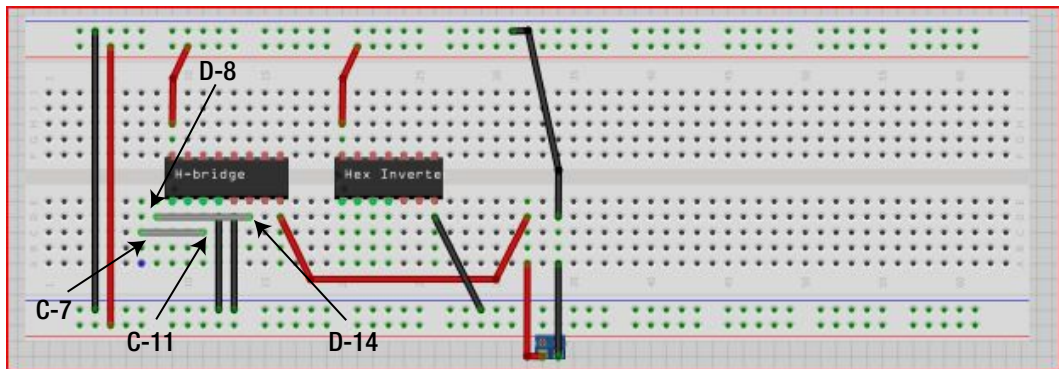

Figure 15-8. Attach wires from pins 3 and 6 to an open area on the solderless breadboard
13. Connect pin 6 of the H-bridge to an empty space on the breadboard. We used a green jumper wire inserted into D-14 with the other end inserted into D-8, as shown in Figure 15-8.